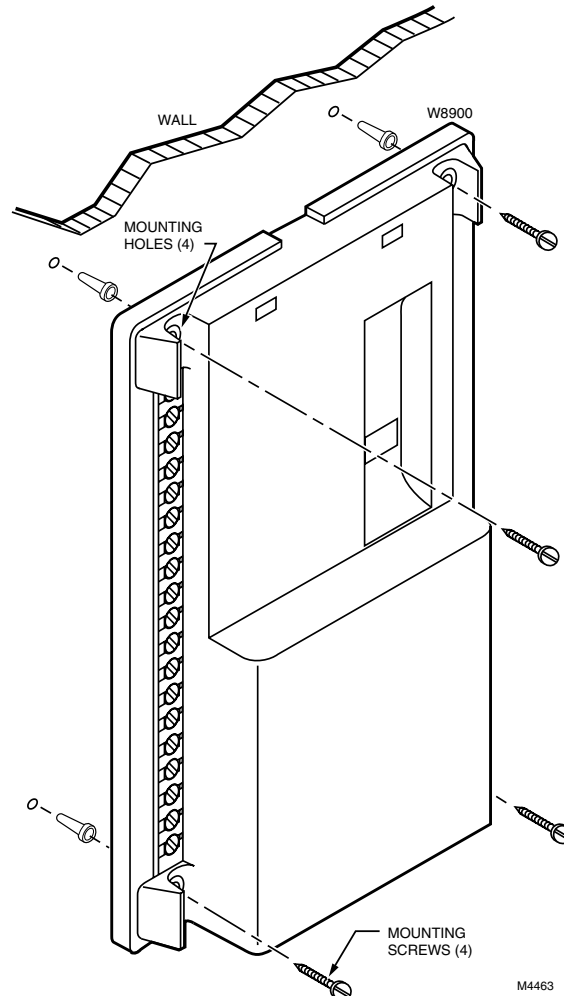

Fig. 9. Mounting W8900A-C Remote Module.
2. Locate the four mounting holes. See Fig. 9.